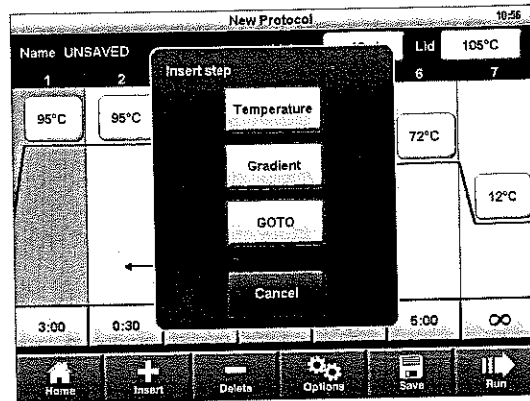

Fig. 4. Insert step window.
- To insert a step, touch **Insert**. The screen will display the type of steps to insert (Figure 4). Select **Temperature** for a temperature hold step, **Gradient** for a thermal gradient for protocol optimization, or **GOTO** to insert a GOTO step that will loop back to repeat the specified steps in your protocol (typically denaturation, annealing, and extension).